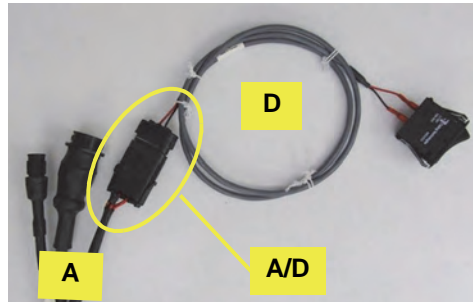

Figure 1d: Connecting the power switch cable
- d. Connect power switch cable **D** to the 4-pin connector on interface cable **A** (Figure 1d).